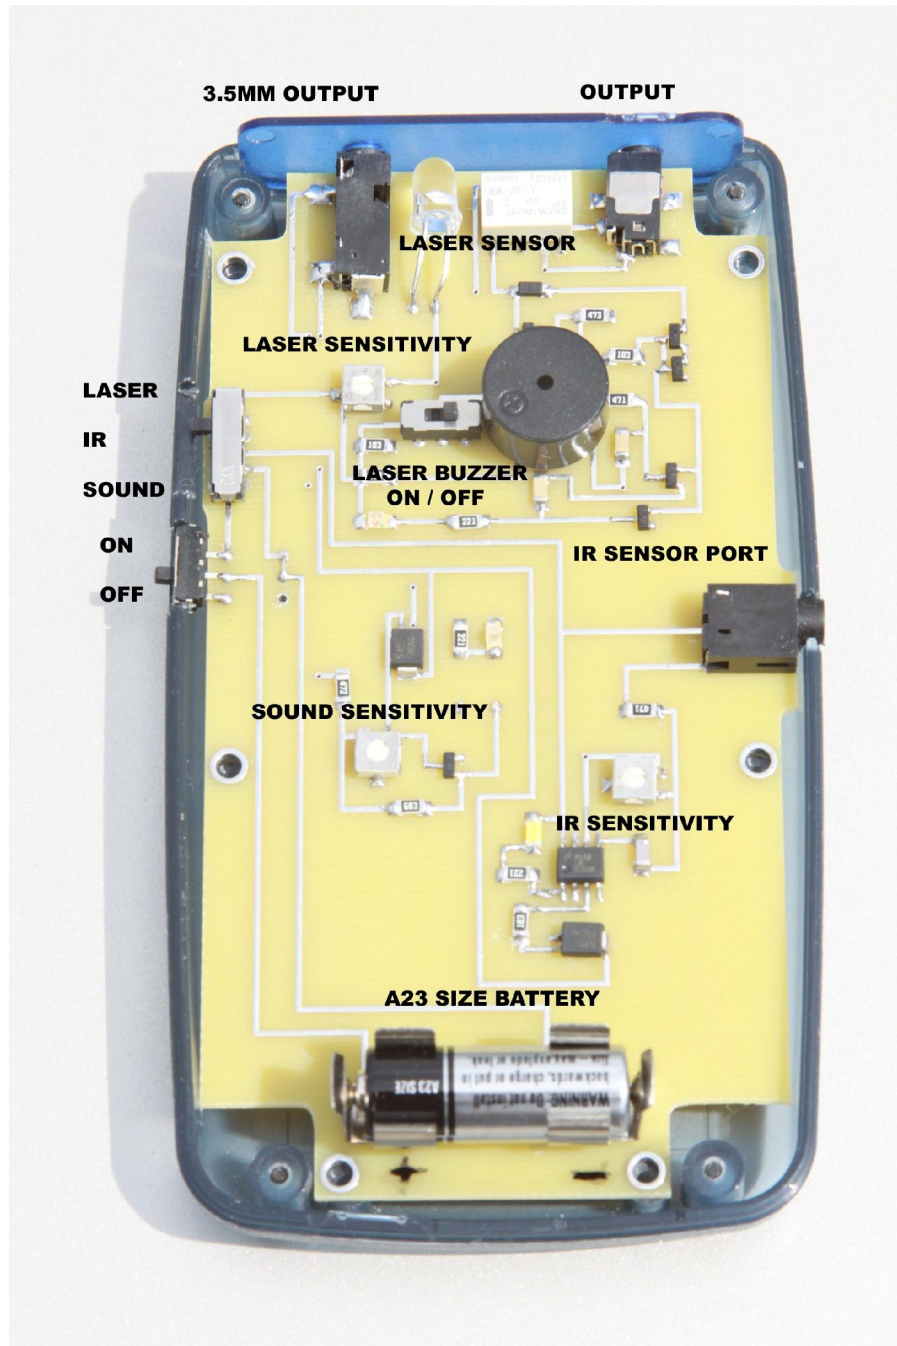

Fig.1
- 1. Fig. 1 shows the basic operation of the trigger. All 3 triggers sensitivities are set to their best performance levels. We do not recommended changing settings, and it's the user's responsibility if they are altered.**
- 3. To use the sound trigger, move the trigger selection switch using a pen tip to Sound as shown in Fig. 1. When turned on a Blue LED indicates power is on. The sound sensitivity is set to its Most Sensitive position. It is a single turn adjustment and can only be turned clockwise no more than one turn. The adjustment is delicate and extreme care is required to not over turn or damage to the unit will occur.**
- 6. The trigger is shipped with a new battery and the trigger selection is set to Laser (Fig.1). If you turn the unit on, nothing will appear to happen. Note the location of the Laser (Photo Interrupter) sensor in Fig.1. The sensor is light sensitive which means ambient light will keep the circuit unlatched until darkness causes the circuit to close. Shut off the lights or step into a darkened room and a red LED will illuminate and you will hear the trigger circuit latch. To use the laser trigger, aim a laser pointer at the Laser Photo Interrupter Sensor through the front panel and what ever breaks the beam will trigger the circuit. The Laser trigger has an optional buzzer indicating the beam from the laser pointer (not included) is broken. It is shipped turned off. To use this function, slide the Laser Buzzer switch from Off to On. The laser sensitivity is set to a medium range. You can turn the adjustment to more sensitive clockwise or less sensitive counter clockwise.**
- 7. The InfraRed trigger sensitivity was adjusted and set during testing to perform “Water Droplet” photography where a drop of water will interrupt the slot sensor (included) beam and trigger your flash. The slot sensor circuit is designed for slow moving objects and will not work with bullets or fast objects. To use the IR trigger, plug the sensor cord into the connector as indicated in Fig. 1, move the trigger selection switch using a pen tip to the center position (Fig.1) then turn the unit on. A white LED will illuminate indicating power is on.**